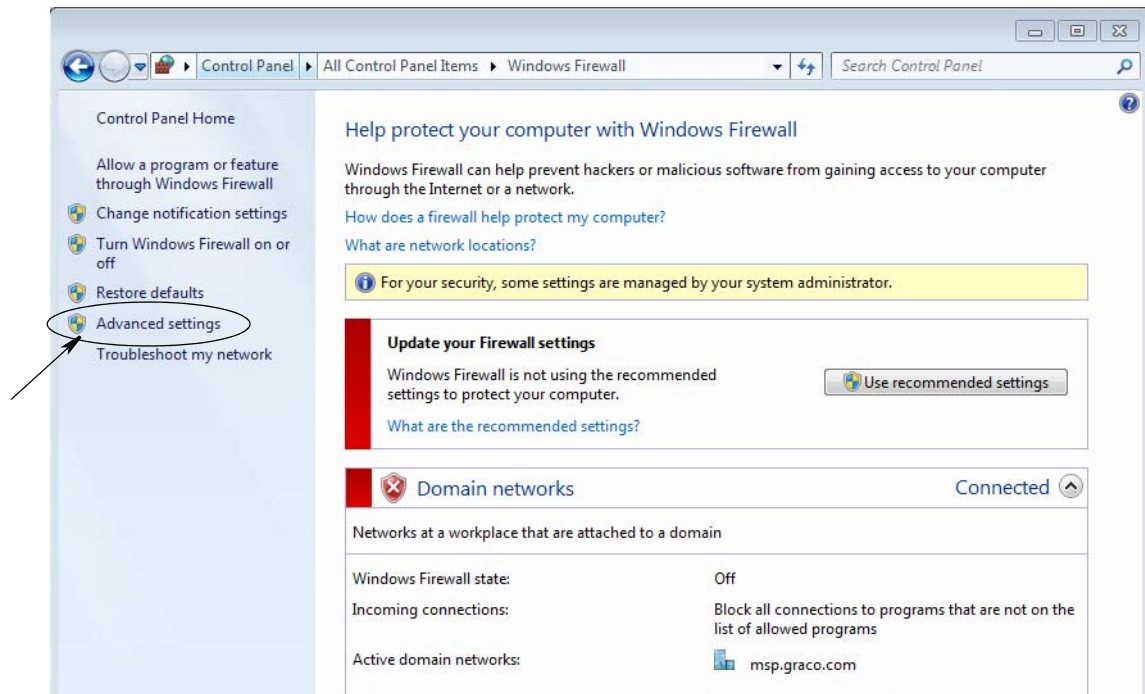

FIG. 36
2. Click on Advanced Settings (FIG. 36).